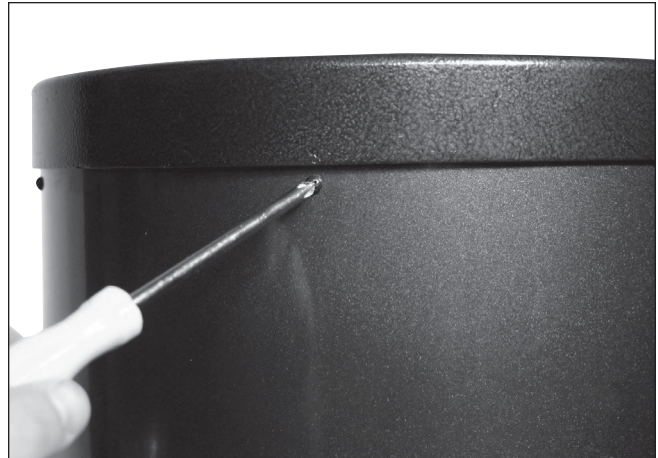

Figure 16. To remove the rear end ring, unthread the six screws that connect it to the tube.
1. To install the mirror cell into the optical tube, the rear end ring attached to the lower section of the optical tube must first be removed. This is done by unthreading and removing the six Phillips-head screws that connect the end ring to the tube (**Figure 16**), and then pulling the end ring off of the tube.